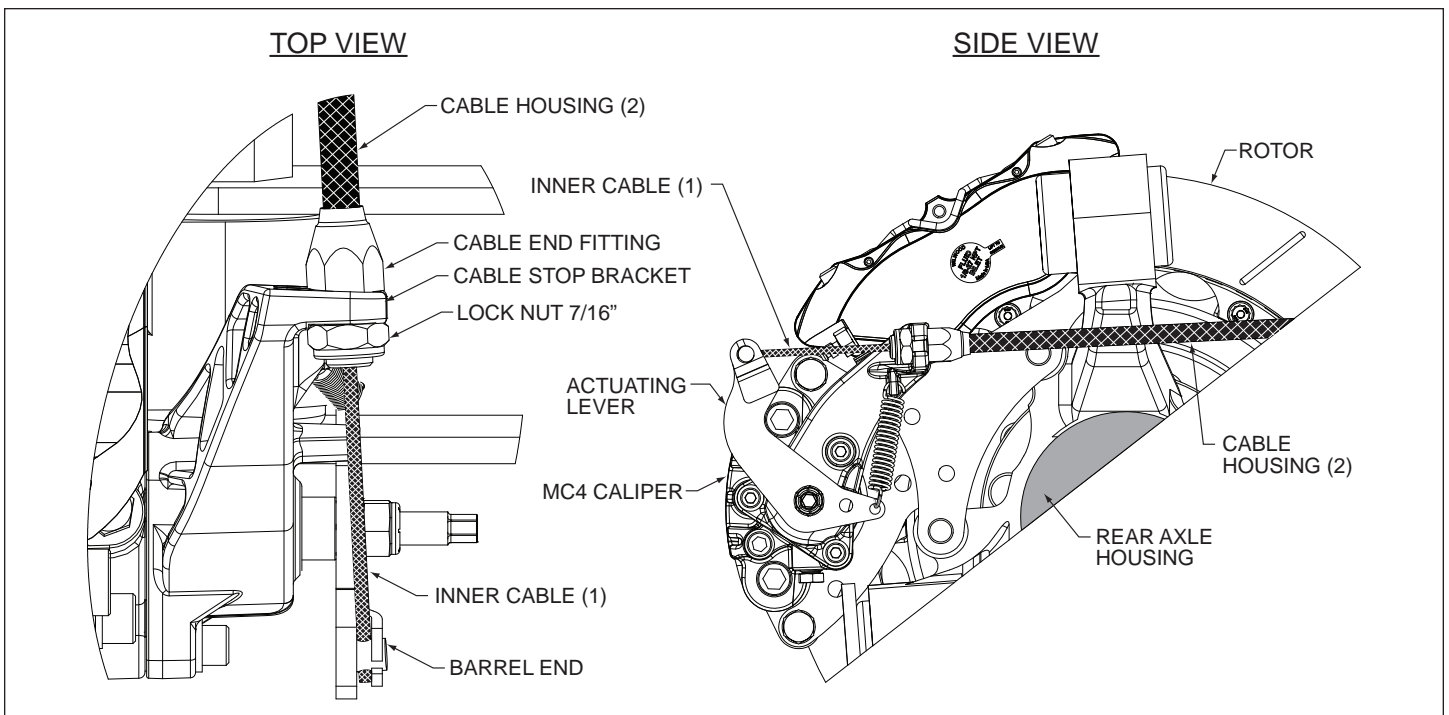

Figure 2. Typical Cable Installation, MC4 Parking Brake Caliper
- MC4 Parking Brake Only: Insert cable barrel end into MC4 actuating lever as shown in Figure 2. Repeat for other side.